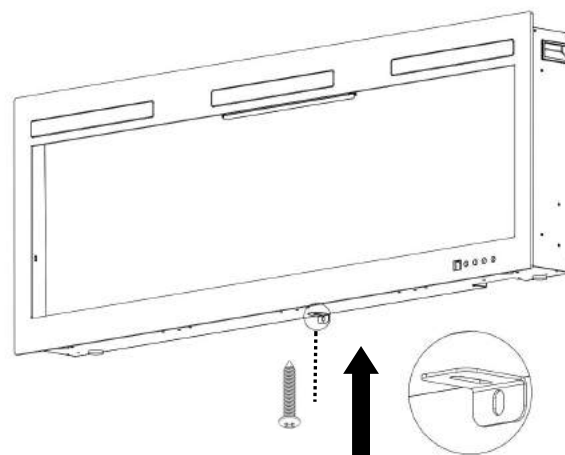

Fig 4-2
B. Using the screw previously removed, attached the L-bracket (supplied) to the bottom of the fireplace box. **(Fig 4-2)**